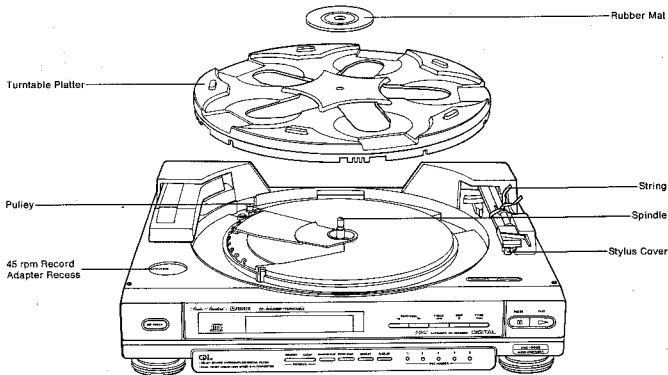

Figure 2
3. Place the rubber mat onto the turntable platter (Figure 2).
4. Place the 45 rpm record adapter into the storage recess on the base (Figure 2).
6. Remove the stylus cover prior to playing a record (Figure 2).